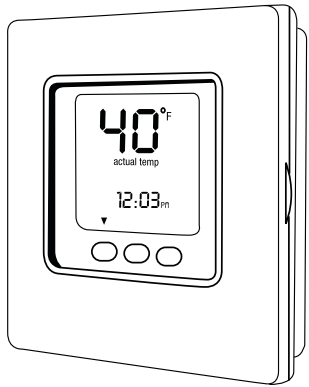

Fig. 4 – Lowest Temperature Setting
1. Set your room thermostat to the lowest temperature setting. See Fig. 4.
- Close the external manual gas valve (See Fig. 4).